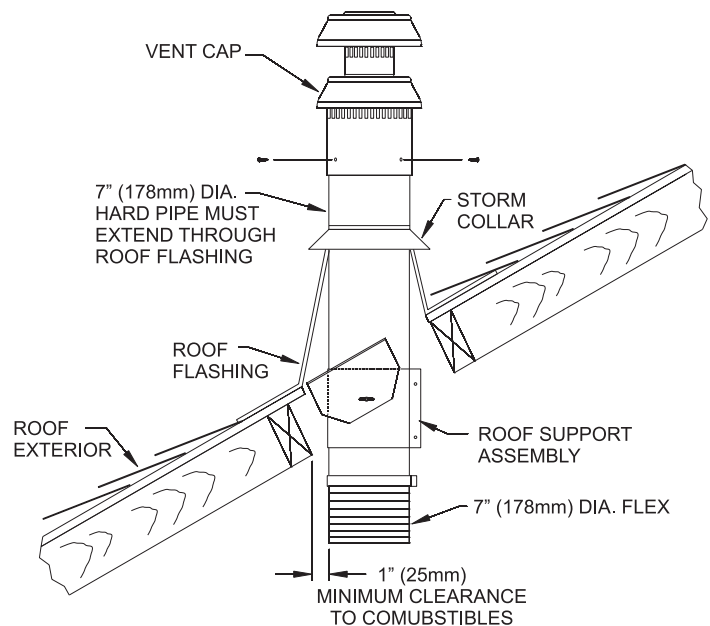

Figure 56
19. Once the lower connections are made and the flex pipe is secured with support bands as required (3 feet minimum between supports) then the roof flashing can be installed. **See Figure 56.**
23. **Figure 56** shows a completed installation with components identified and other installation information such as heights and clearance to combustibles.